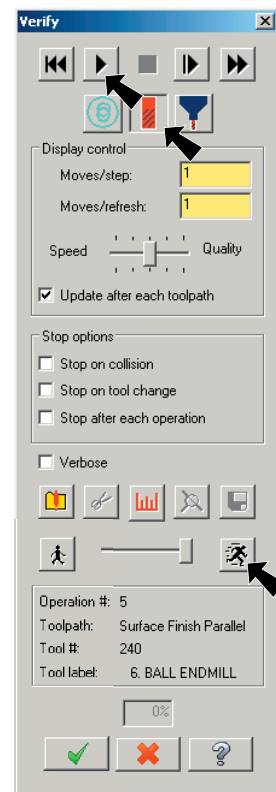

Fig. 21
Step 3. Click **Machine quickly** , **Fig. 21**.
Step 5. Click the **Play**  in the Verify dialog box to start the machining, **Fig. 21**.